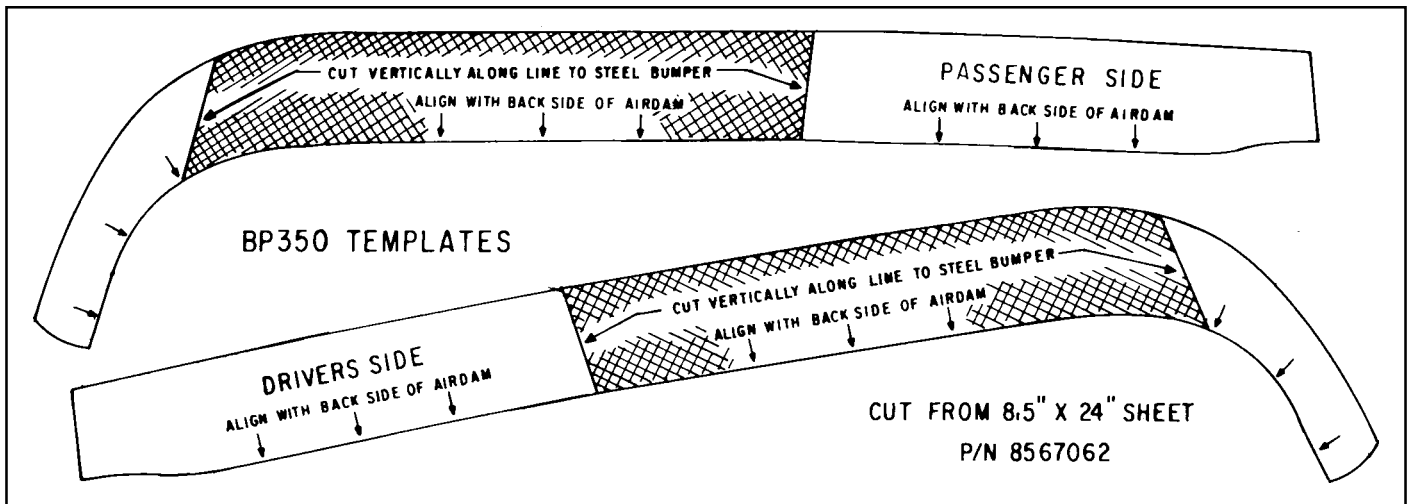

Figure 1. Templates.
1. Cut the adhesive-backed air dam templates (one driver side and one passenger side) from the supplied template sheet. Be sure to follow the outside edge of the lines when cutting out the templates. See figure 1.